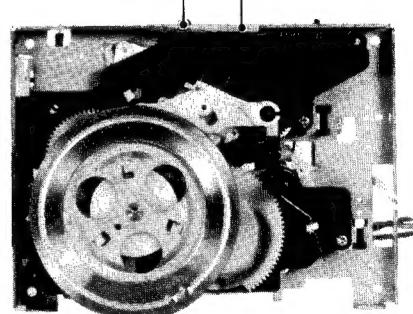

Fig. 9
9. Main base ass'y ⑯ and disk base unit ⑯ (Fig. 9, 10)